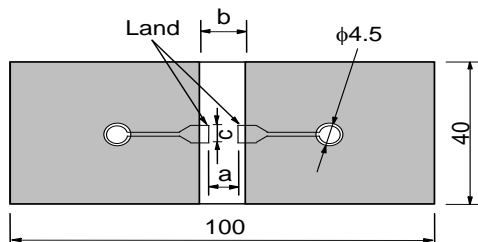

Fig.1 (in:mm)
- Gray colored part of Fig.1: Solder resist